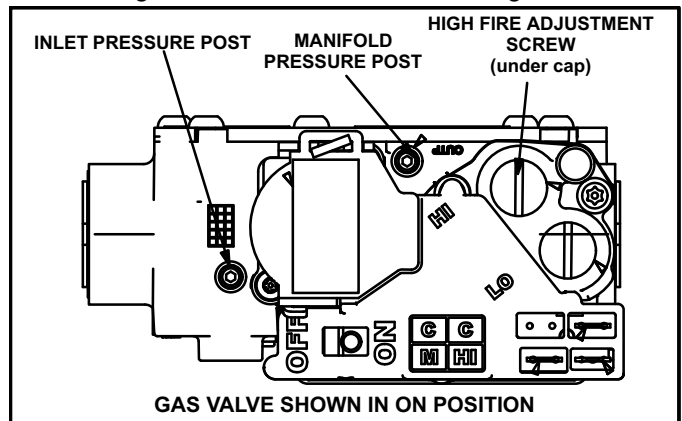

FIGURE 69
Gas Valve Operation (Figure 69)
- 6 - Move gas valve switch to **OFF**. See figure 69.
- 8 - Move gas valve switch to **ON**. See figure 69.
An inlet post located on the gas valve provides access to the supply pressure. See figure 69. Back out the 3/32 hex screw one turn, connect a piece of 5/16 tubing and connect to a manometer to measure supply pressure. See table 16 for supply line pressure.
A manifold pressure post located on the gas valve provides access to the manifold pressure. See figure 69. Back out the 3/32 hex screw one turn, connect a piece of 5/16 tubing and connect to a manometer to measure manifold pressure.
- 5 - If necessary, make adjustments. Figure 69 shows location of high fire and low fire adjustment screws.